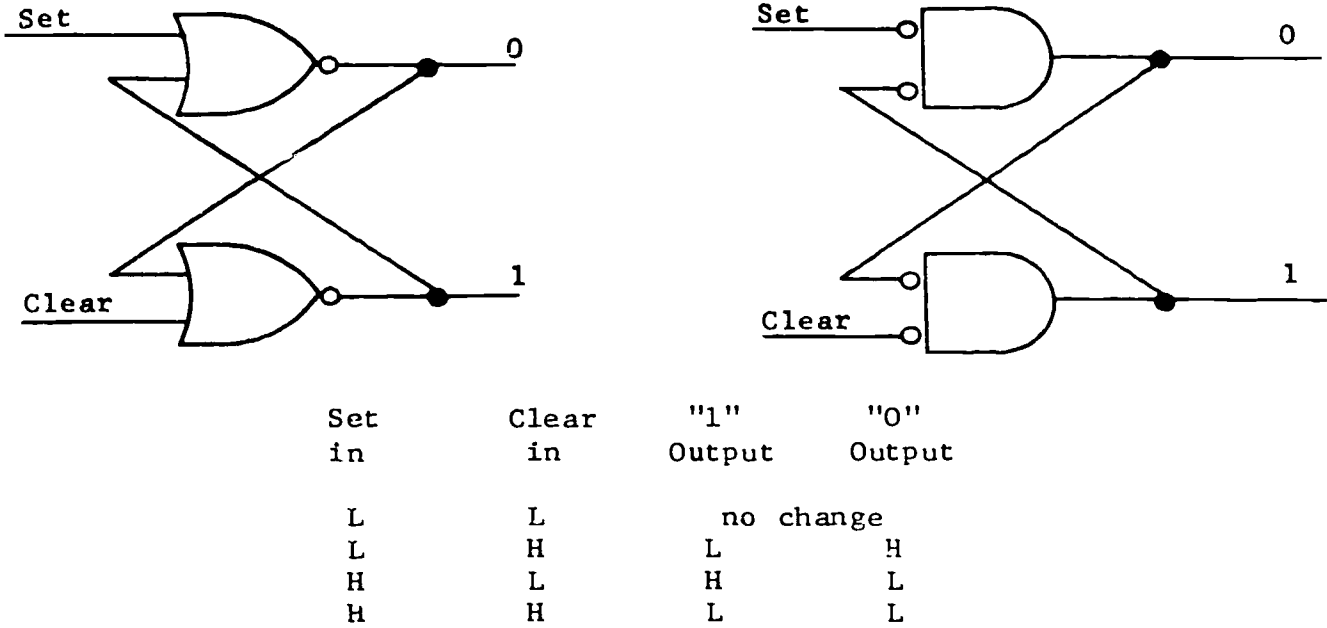

Figure 1-4. R-S configuration using gates.
R-S Latch Flip-Flop. The basic bistable multivibrator trigger circuits, with or without modifications, may be used to function as set/reset flip-flops in logic circuits. It is, perhaps, more practical (from the standpoint of manufacturing costs) to interconnect certain logic elements so that they will function as flip-flops. Figure 1-4 illustrates how two gates may be interconnected as an R-S latch.
1. Explain how the setting of the OR-latch flip-flop in figure 1-4 is accomplished.
2. Once set, how is the OR-latch flip-flop of figure 1-4 reset?
3. How is the AND-latch flip-flop of figure 1-4 held in the SET state?
4. Using the AND-gate latch of figure 1-4, how is the latch set?